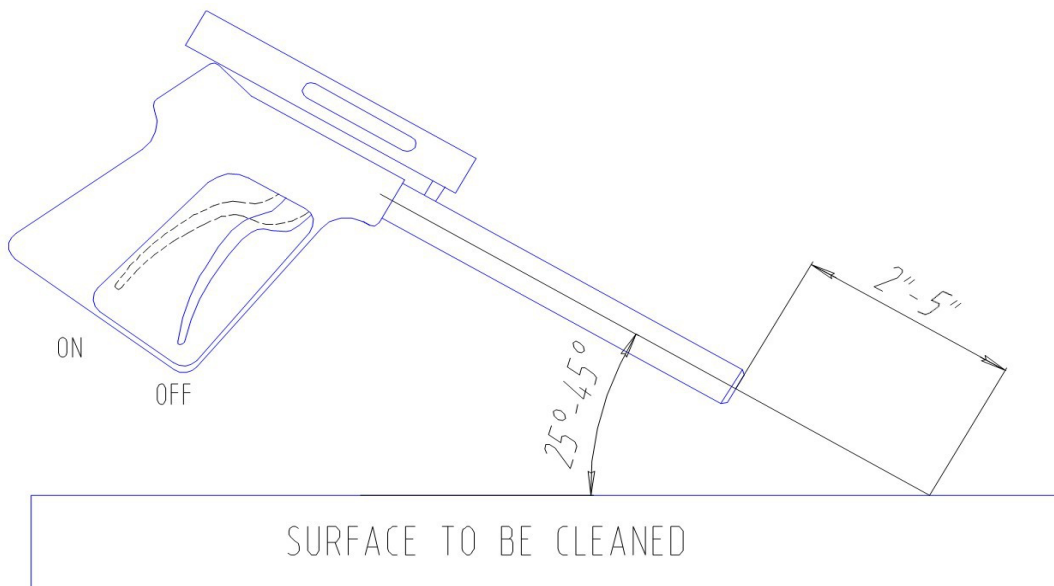

Figure 5.4 – Gun position for Best Results
2. The most efficient operating technique is to hold the nozzle 2-5 inches (5- 12 cm) away from the surface to be cleaned and at a 25-to-45-degree angle to the surface being cleaned (See **Figure 5.4**). The diver needs to observe the shape of the cavitating jet cone. At greater depths, the higher ambient pressure will cause the jet cone to be shorter. The widest zone of the cone is the most efficient part of the cavitating-jet. Placing the nozzle closer than 2 inches (5 cm) from the surface being cleaned will not allow for efficient cavitation performance and will degrade the cleaning capability of the CaviBlaster system.